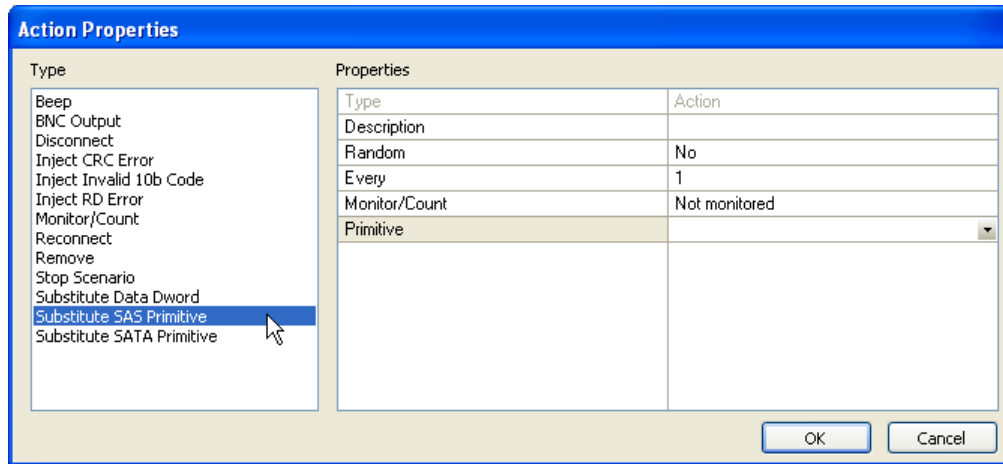

Figure 5.13 Example 2: Action Properties Dialog Box
Step 5 The Action Properties dialog box appears (Figure 5.13). In the Type column on the left, choose **Substitute SAS Primitive** as the action you want when an RRDY (Normal) occurs.